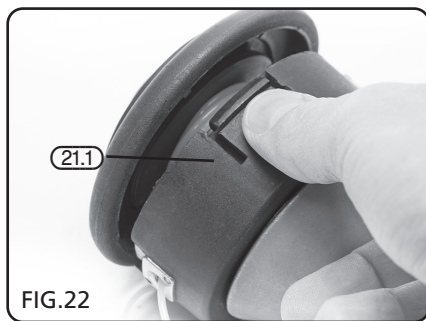

FIG.22
14.5 REWINDING THE SPOOL INSERT (FIGS 22 – 24)